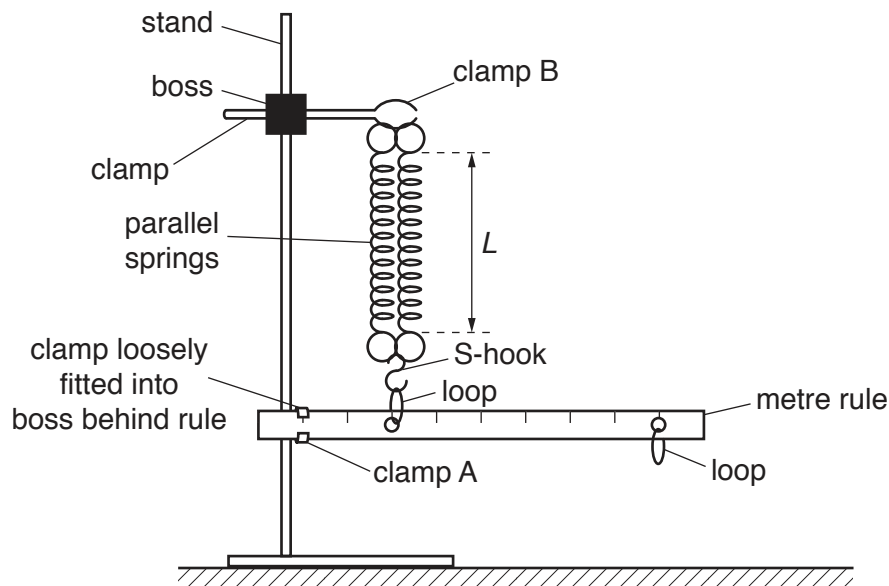

Fig. 4.2 (front view)
5. The Supervisor should set up the apparatus as shown in Fig. 4.2. The Supervisor should ensure that it is possible to hang the mass hanger and nine 10g masses from the loop at the 90.0 cm mark and to adjust the height of clamp B to make the rule horizontal. The Supervisor should then remove the mass hanger and masses from the rule and unhook the rule from the S-hook.